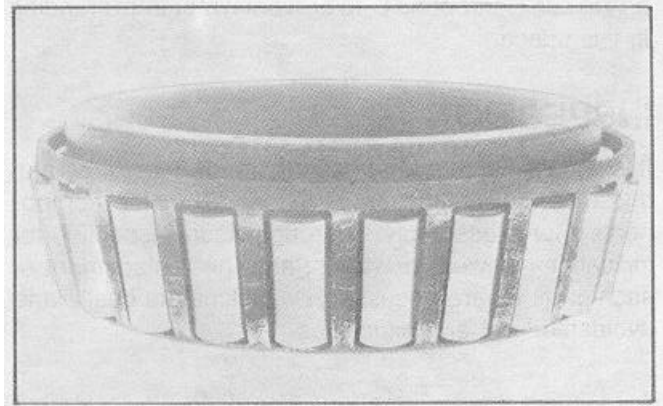

Figure 15
3. Bright rubbing marks on the dark phosphate surfaces of the bearing cage (Figure 15).